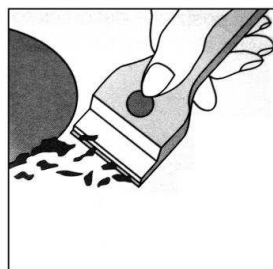
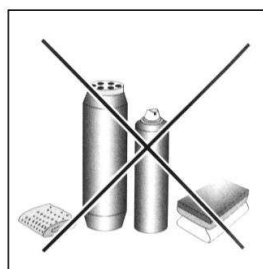

Fig.1
Fig.2
- **CERA** ^{Quar} (not supplied) (Fig. 1). Clean the cooking surface when it is still warm with a suitable cleaning product and paper towels. Then rub with a damp cloth and dry. Aluminum foil, plastic items, objects made of synthetic material, sugar or foods with a high sugar content that have melted onto the surface must be removed **immediately** with a scraper while the cooking surface is still hot. Special cleaning products for ceramic glass surfaces form a transparent protective layer which fights dirty buildup. This also protects the surface from damage caused by food with a high sugar content. Do not use abrasive sponges or cleaning products under any circumstances. This holds true for chemically aggressive cleaners, like oven sprays and stain removers (Fig.2)